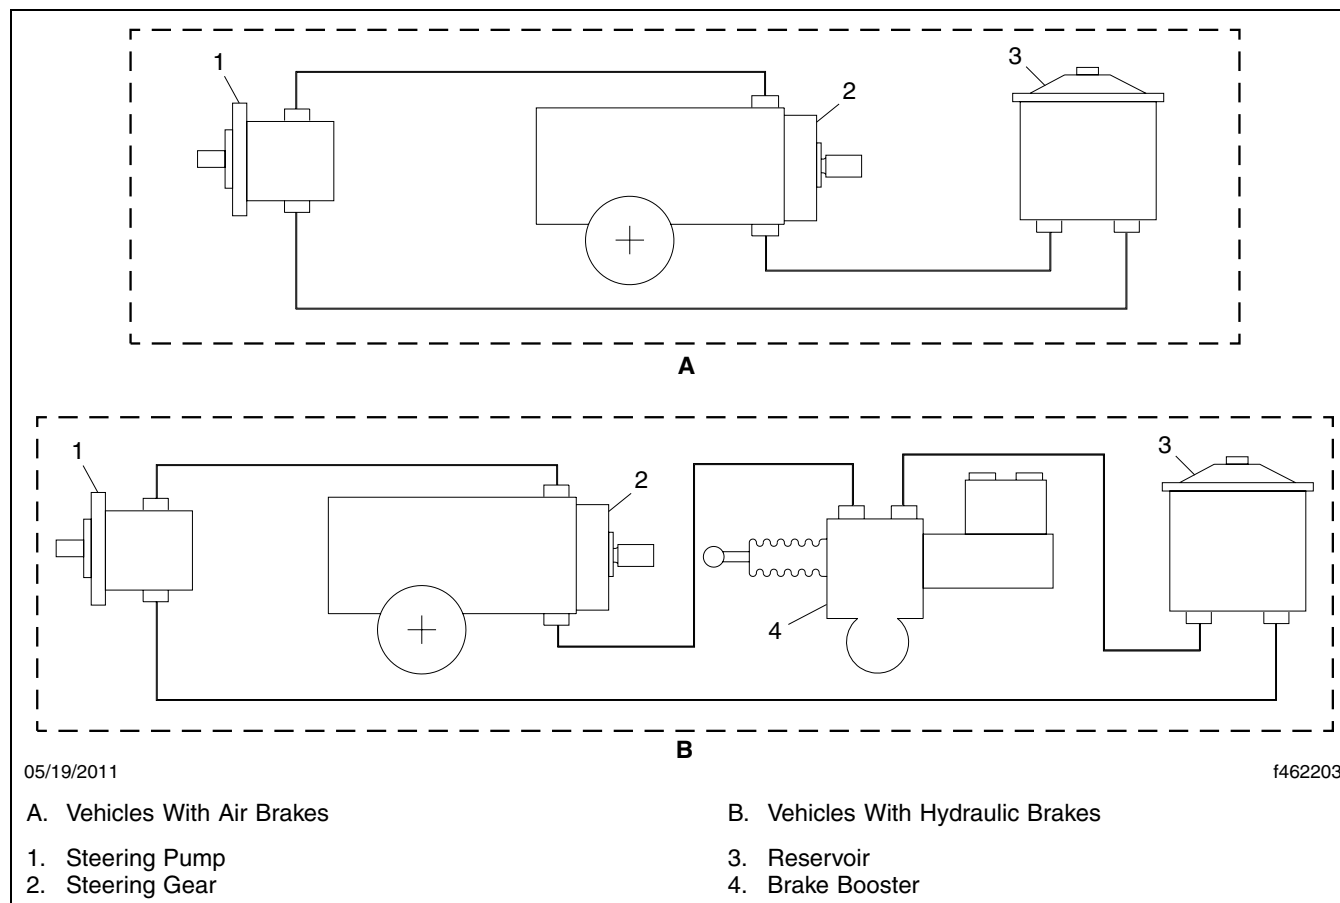

Fig. 4, Plumbing Diagrams
5.4 Leave the low pressure gauge in place and check individual steering system components for excessive restriction. See **Fig. 4** for a plumbing diagram.